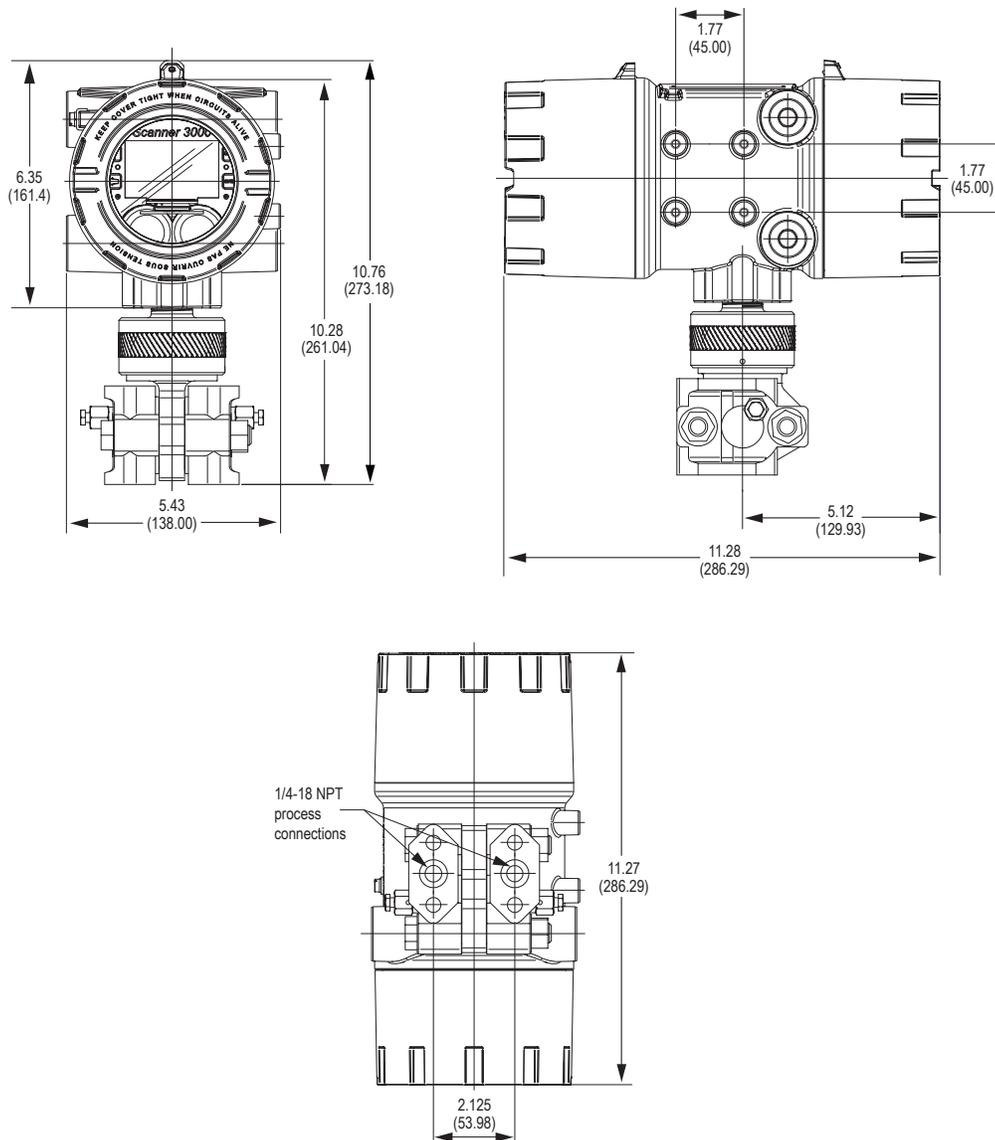
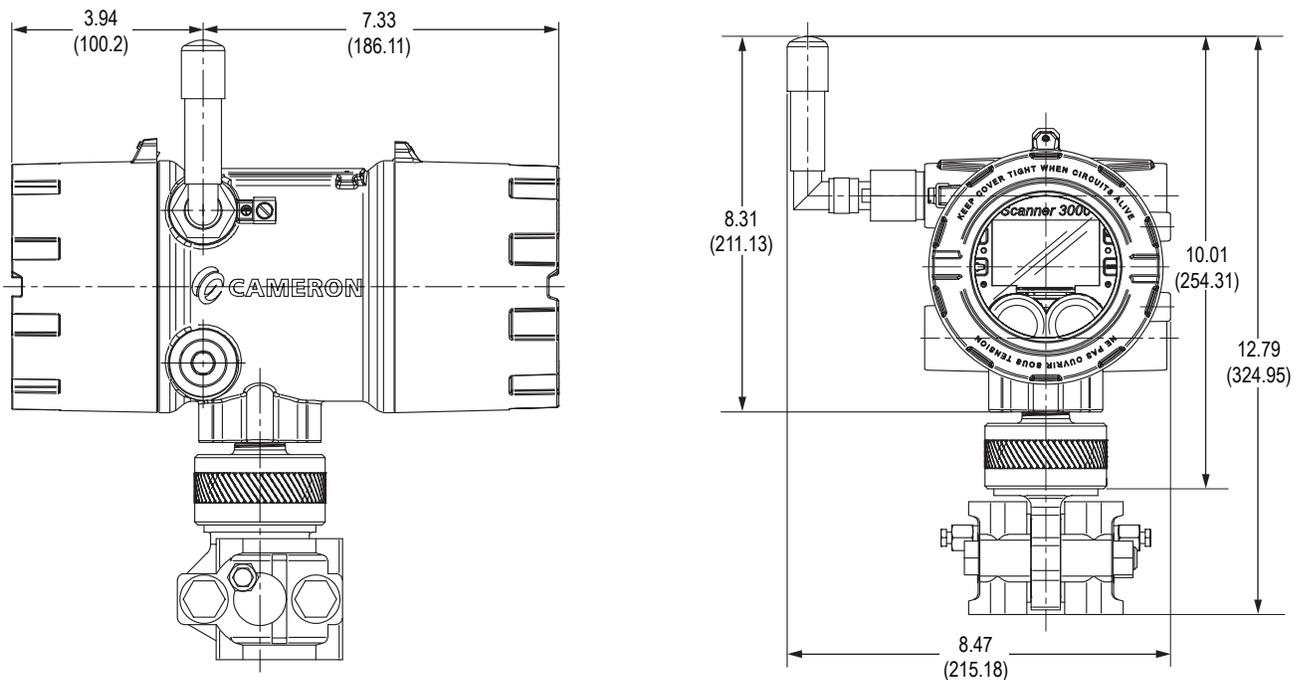

Figure 2.1—Scanner 3100 with MVT, direct-mount; dimensions shown in inches (mm)
Figure 2.3—Wireless Scanner 3100 with MVT and direct-mount antenna; dimensions are shown in inches (mm)
- **Direct-mount to an orifice or cone type differential pressure meter.** The MVT shown in Figure 2.1 (with antenna in Figure 2.3, page 31) may be connected to the pressure taps with stabilizers or a heavy wall nipple with adapter flanges, and a 5-valve manifold. A bottom-port MVT is recommended for gas measurement; a side-mount MVT is recommended for liquid measurement.
Each Scanner 3100 wireless device is equipped with a wireless module connected to the main circuit board and an explosion-proof coupler that threads into an enclosure port. Antennas and antenna cable are optionally available. Figure 2.3 shows installation dimensions for a Scanner 3100 equipped with the direct-mount, right-angle antenna supplied by Cameron.